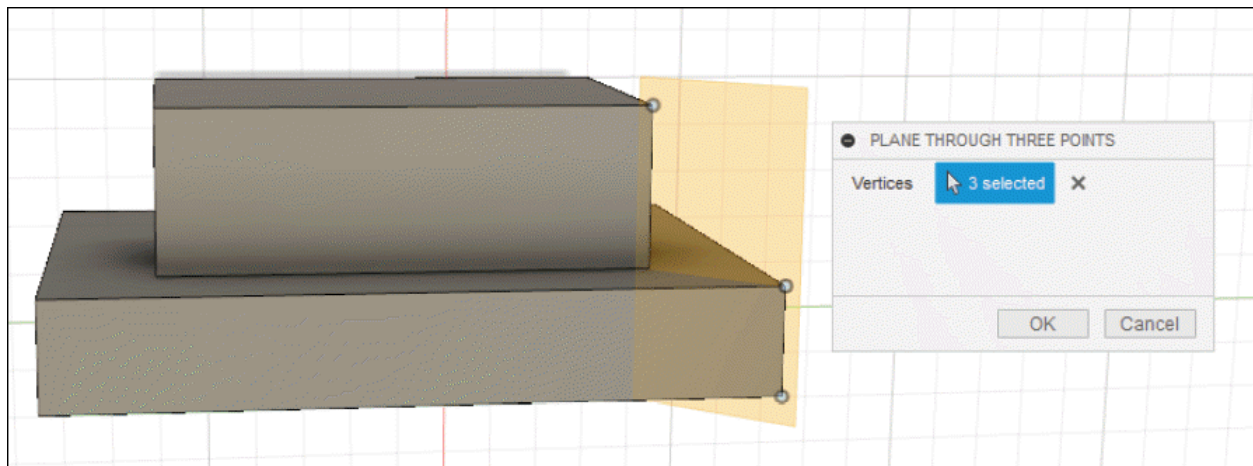

Figure-92. Preview of plane through three points
- After selecting the third point, the preview of plane will be displayed along with model; refer to Figure-92. Click on the **OK** button from the dialog box.